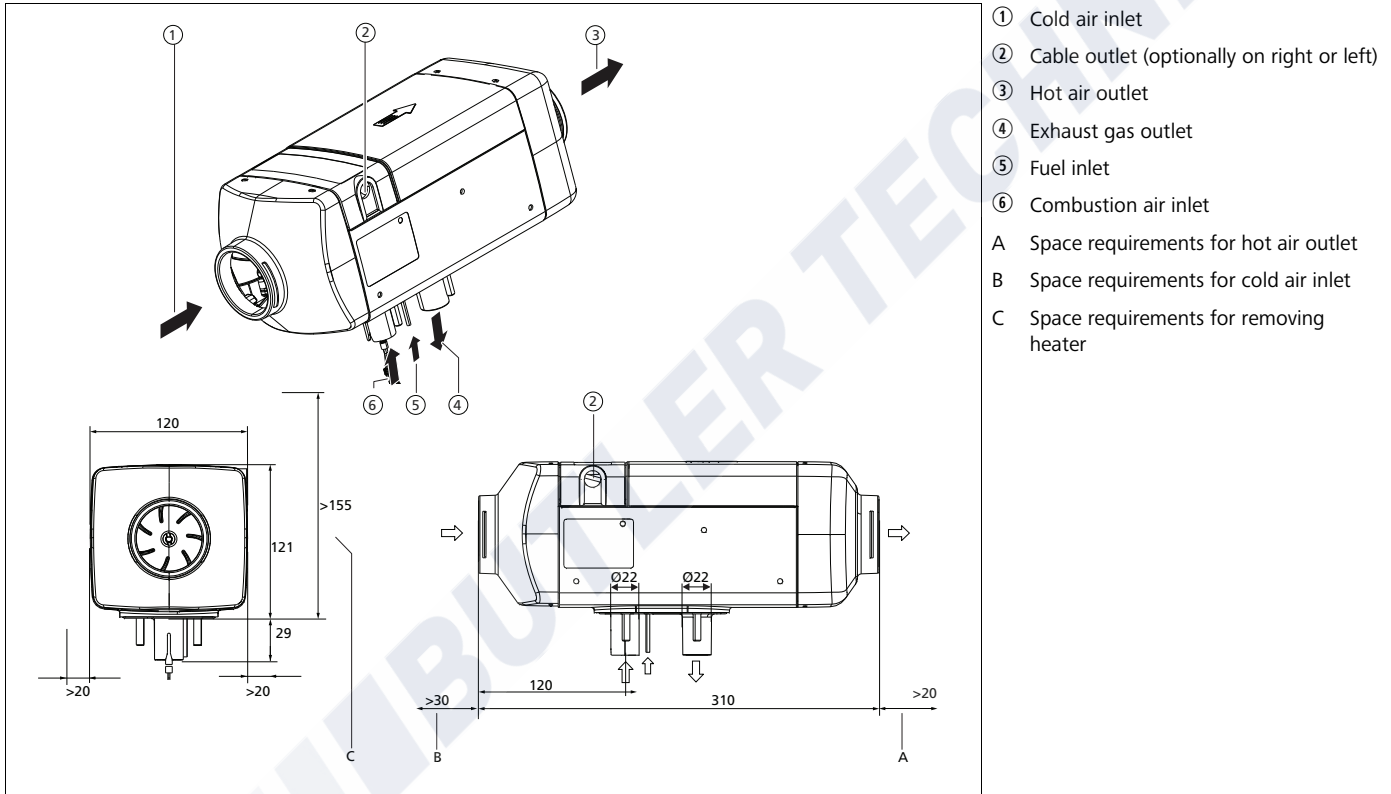
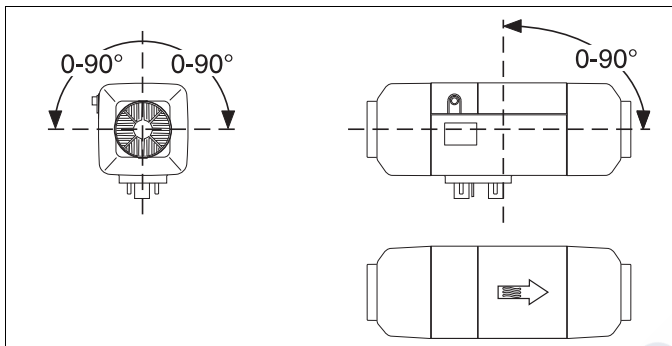

Fig. 4 Dimensions and space requirements [mm] Air Top 2000 STC
Fig. 8 Permissible installation positions of diesel-operated air heaters
see Fig. 4 and Fig. 8
- Do not exceed inclination angle (see Fig. 8).